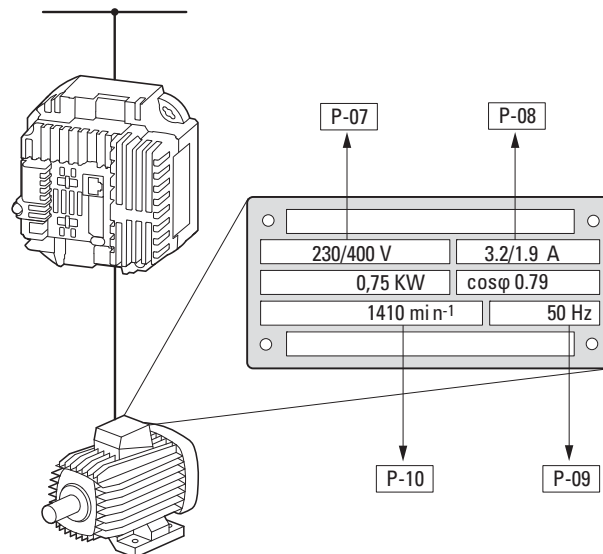

Figure 14: Selection criteria
**Example based on figure 14**